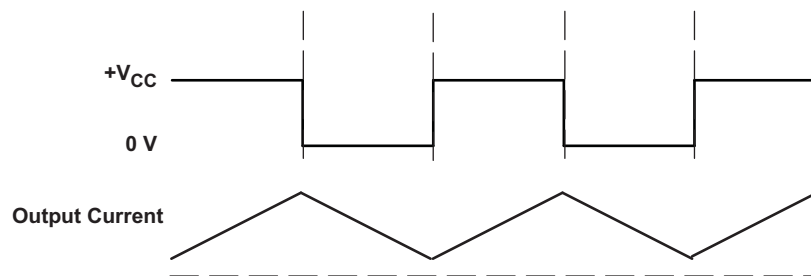
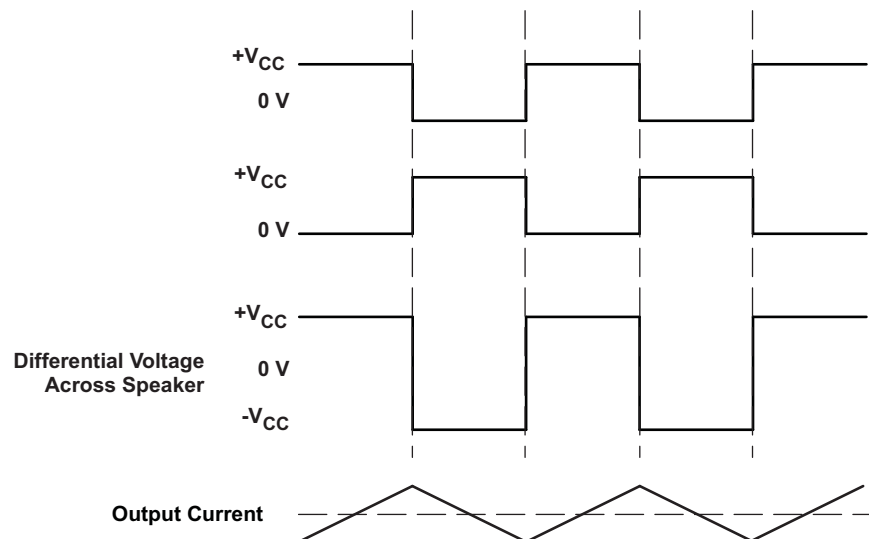

Figure 24. Class-D Modulation for TPA3120D2 SE Configuration
Figure 25. Class-D Modulation for TPA3120D2 BTL Configuration
The TPA3120D2 operates in AD mode. There are two main configurations that may be used. For stereo operation, the TPA3120D2 should be configured in a single-ended (SE) half bridge amplifier. For mono applications, TPA3120D2 may be used as a bridge tied load (BTL) amplifier. The traditional class-D modulation scheme, which is used in the TPA3120D2 BTL configuration, has a differential output where each output is 180 degrees out of phase and changes from ground to the supply voltage, V_{CC} . Therefore, the differential prefiltered output varies between positive and negative V_{CC} , where filtered 50% duty cycle yields 0 V across the load. The class-D modulation scheme with voltage and current waveforms are shown in Figure 24 and Figure 25.